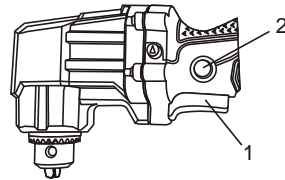

Fig. 3
Your drill is equipped with a lock-on feature, which is convenient when continuous drilling for extended periods of time is required (Fig. 3). To lock the switch ON, fully depress the trigger switch (1), push in and hold the lock-on button (2) located at the left side of the handle, then release the trigger. Release the lock-on button and your drill will continue running. To turn the drill OFF, depress and release the trigger switch to release lock.